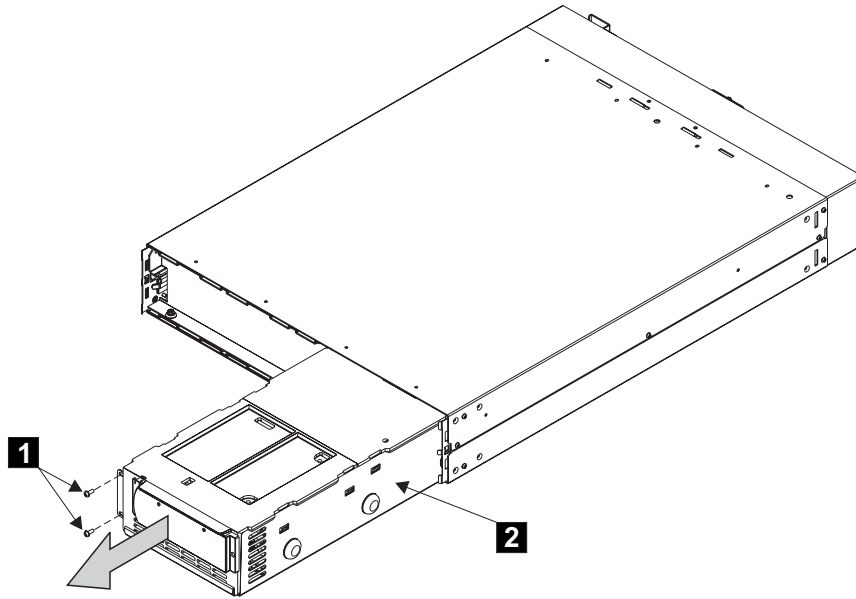

Figure 87. Removing the 2145 UPS electronics assembly
- 3. Remove the two screws **1** (shown in Figure 87 on page 126).